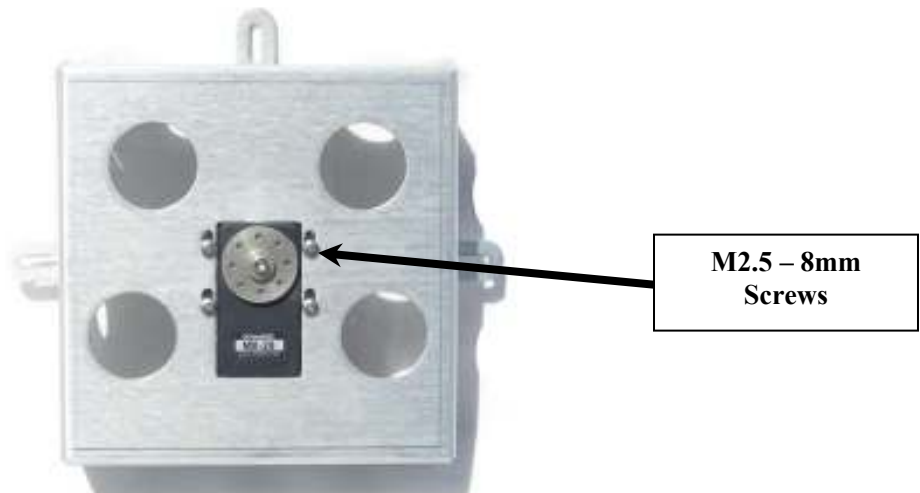

Figure 1
1. Using (4) M2.5 – 8mm screws and nuts, install the servo to the turntable base as shown in figure 1. Obtain the nuts from the hardware bag that came with the servo.